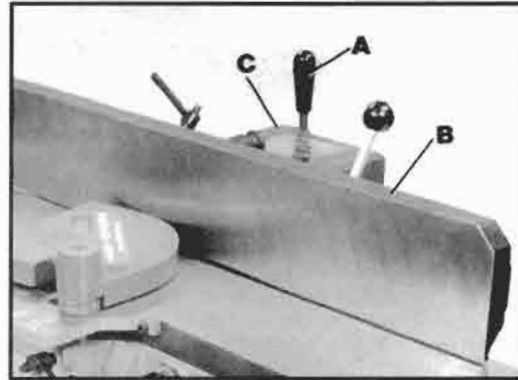

Fig. 16
The fence can be moved across the table by loosening lock lever (A) Fig. 16, sliding the fence (B) to the desired position and retightening locking lever (A). As the fence is moved across the table, the sliding bracket (C) guards the cutterhead in back of the fence as shown.